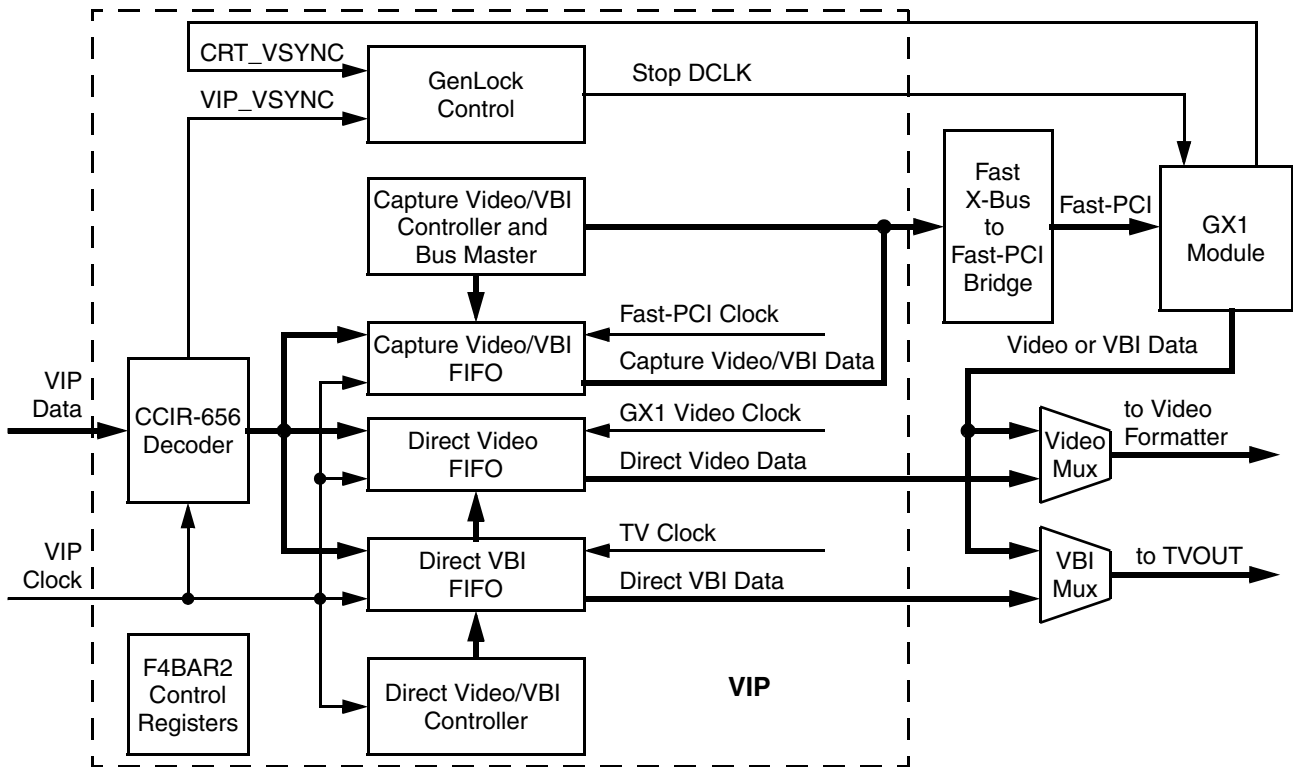

Figure 7-4. VIP Block Diagram
The VIP block is designed to interface the SC1200/SC1201 processor with external video processors (e.g., Philips PNx1300 or Sigma Designs EM8400) or external TV decoders (e.g., Philips SAA7114). It inputs CCIR-656 Video and raw VBI data sourced by those devices, decodes the data, and delivers the data directly to the Video Formatter (Direct Video/VBI modes) or to the GX1 module's Video Frame Buffer (Capture Video/VBI modes). Figure 7-4 shows a diagram of the VIP block.
- 2) The altered VBI data can be sent to the TVOUT block of the Video Processor via the video frame buffer or graphics frame buffer. See VIP block diagram (Figure 7-4 on page 315). The Closed Captioning data could be altered and then sent out this way. One reason to capture the Closed Captioning data would be to do a language conversion. If the VIP block is in Capture Video mode then this option is not possible because the video frame buffer can be used for sending video or VBI, but not simultaneously.